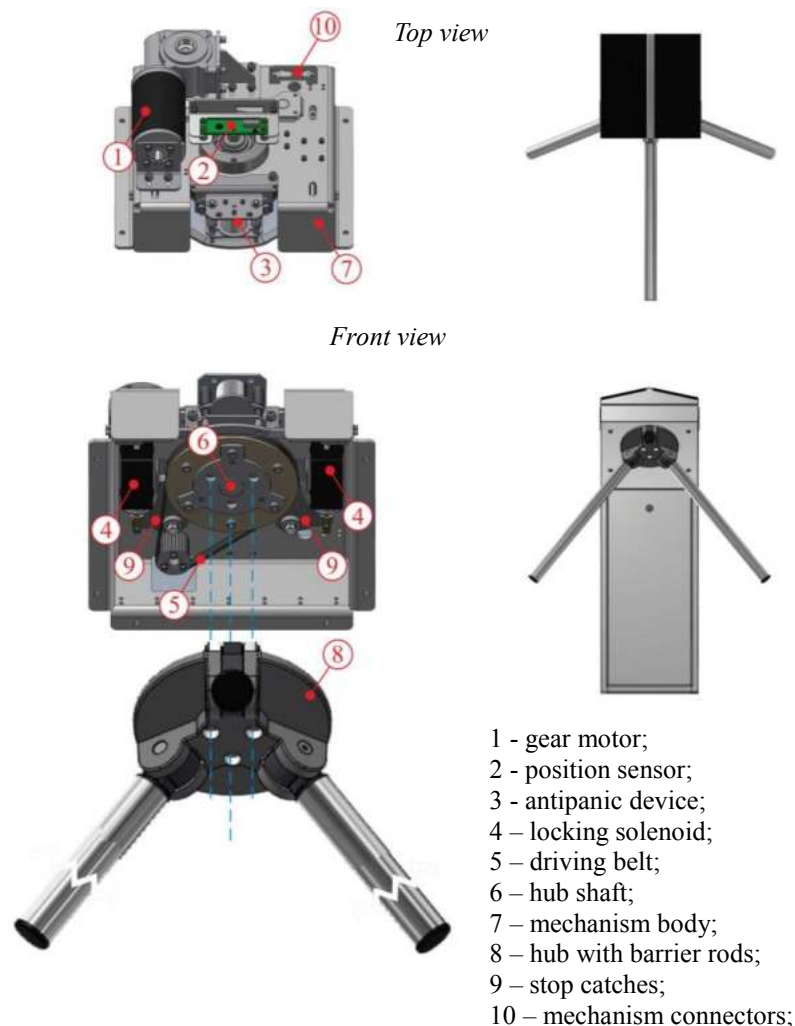

Fig. 5 – Turnstile actuating mechanism
1.4.1.3 The tripod turnstile control mechanism design is shown in Figure 5.